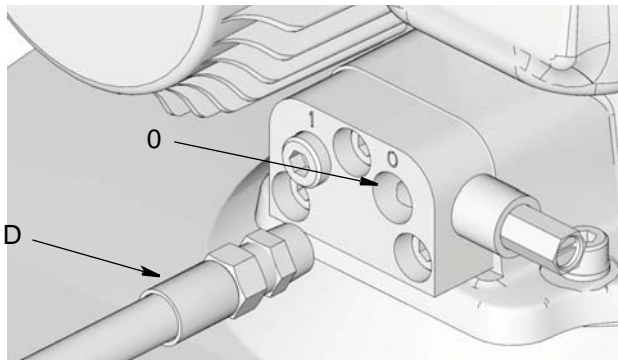

FIG. 63: Lubricant Outlet Connection
8. Connect the timer/controller (F) (user supplied, if used).
9. Connect High Pressure Lubricant Supply Line (D) to the Lubricant Output Connection (O) (FIG. 63) on the Vent Valve or Manifold.